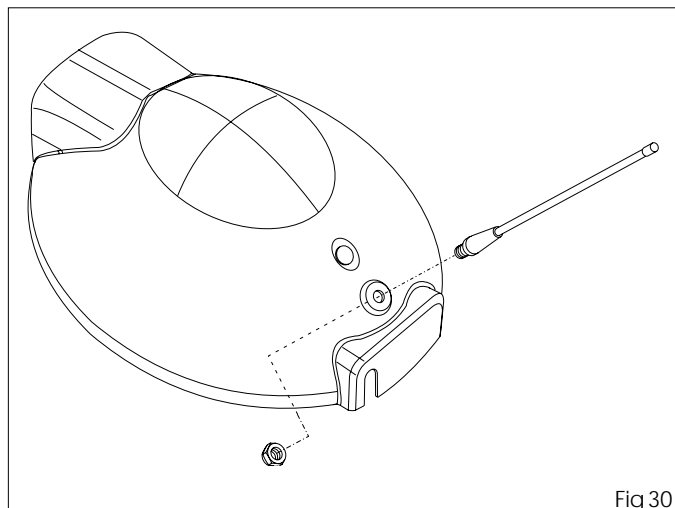

Fig.30
8.3 Turn the housing toward the front, fit the antenna and secure it from the inside with a suitable nut (fig. 30).